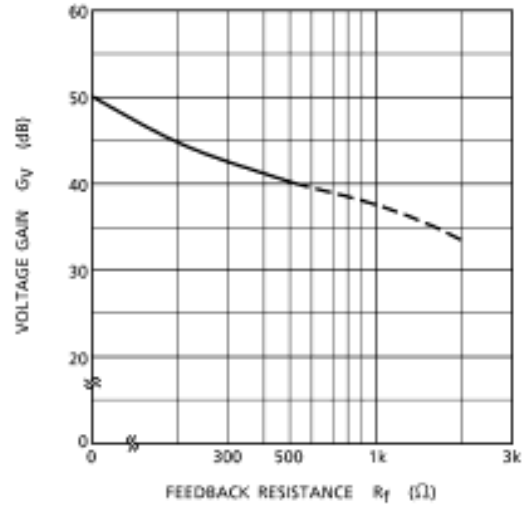

Fig.2
The voltage gain is reduced when  $R_f$  is increased. (Fig.2) With the voltage gain reduced, since (1) the oscillation stability is reduced, and (2) the pop noise changes when  $V_{CC}$  is set to on, refer to the items 3 and 4.